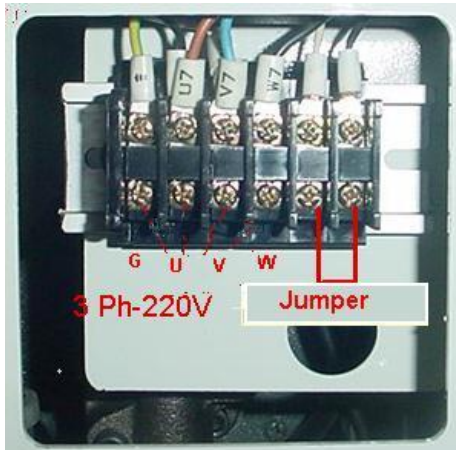

Fig.1
4. Use key board, press [ALT] and [I] see input #62 chiller fault has red light that mean 2 wires signal become normal open now. We try jumper 2 wires signal together (Look picture below fig 1.), if the input #62 has green light (that mean normal close-no alarm), we know the problem is oil pressure switch too low, we have to adjust it. Now remove jumper.